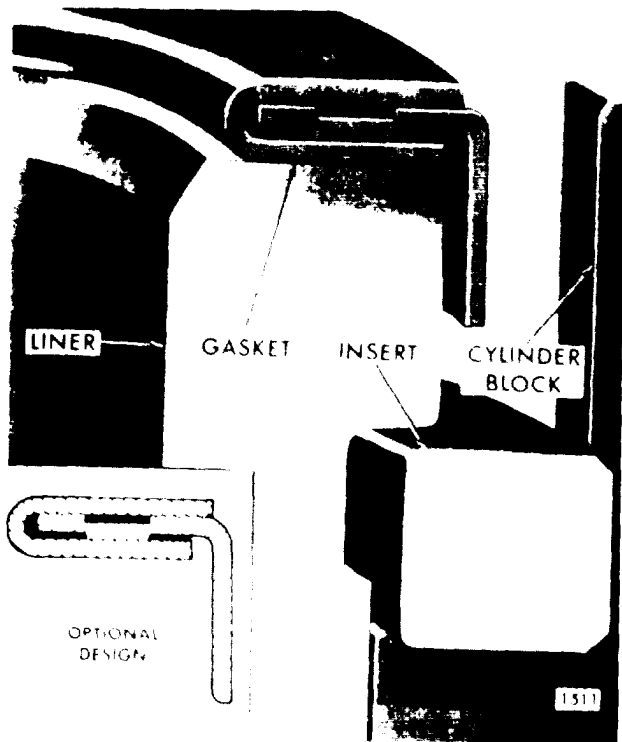

Figure 11B-136. Cylinder Liner Mounting in Block
4. Install a cylinder liner hold-down clamp as shown in Figure 11B-137 on page 11B-89.
5. Measure the distance from the top of the liner to the top of the block with a dial indicator (see Figure 11B-137 on page 11B-89). The liner flange must be 0.045" to 0.050" below the surface of the block. However, even through all of the liners are within these specifications, there must not be over 0.002" difference in depth between any two adjacent liners when measured along the cylinder longitudinal center line.